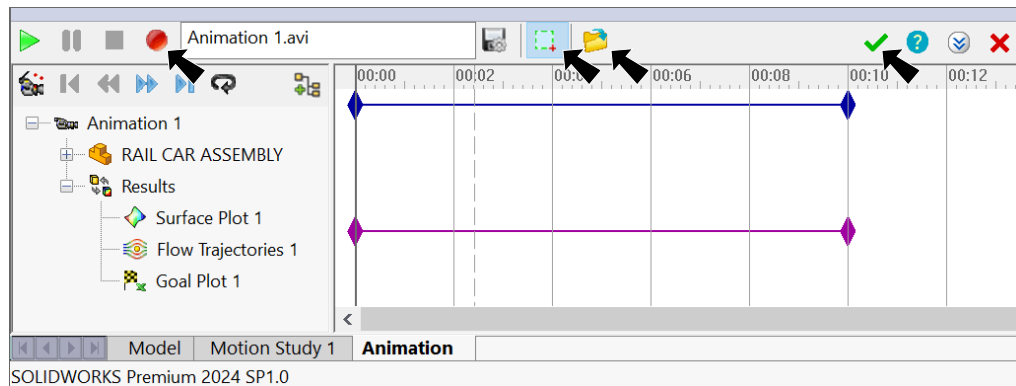

Fig. 32
Step 2. In the Animation control panel turn on **Capture Region** , Fig. 32.
Step 4. Click **Record** , Fig. 32.